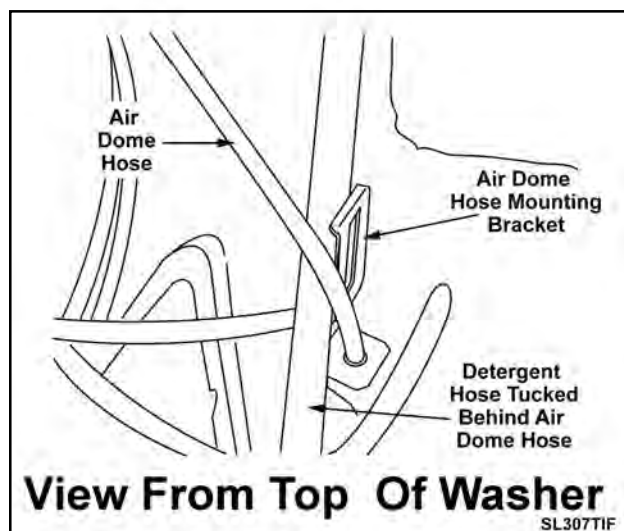

Figure 8-9
4. Follow the detergent hose vertically up to the air dome hose mounting bracket. The detergent hose is tucked behind the air dome hose. *(See Figure 8-9)*